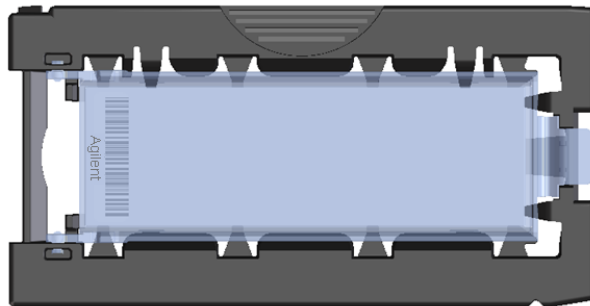

Figure 9 Slide holder – closed with slide
- g Close the plastic slide cover, pushing on the tab end until you hear it “click”. See Figure 9.